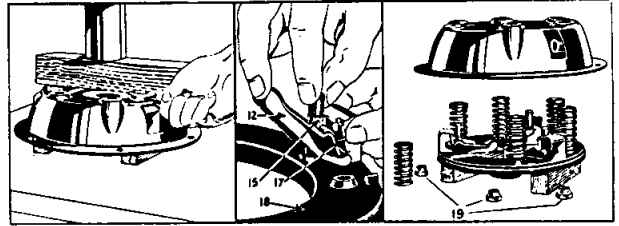

Fig. 14 Dismantling the Cover Assembly utilising a ram press. 12 Release Lever. 15 Eye Bolt. 17 Strut. 18 Pressure Plate. 19 Adjusting Nuts.
28. DISMANTLING THE COVER ASSEMBLY (Fig. 14) WITHOUT CHURCHILL FIXTURE